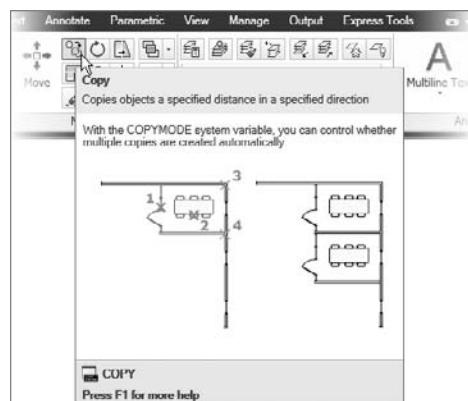

FIGURE 1.24 The cue card for the Copy tool
4. Pause the cursor over the Copy button in the Modify panel. This time, after a few seconds, the tooltip is replaced with a cue card, as shown in Figure 1.24, instead of an extended tooltip. *Cue cards* show the step-by-step implementation of the tool.